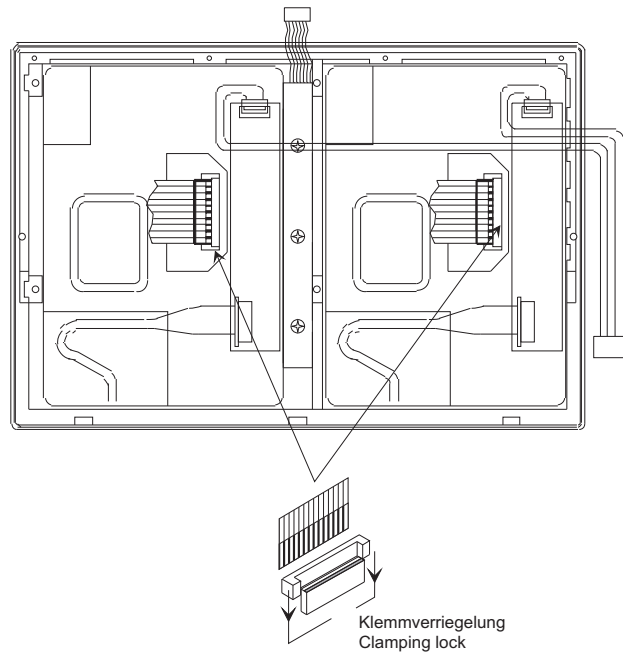

Fig. 8-9: Connecting the display
12. Connect flat cables to display unit. Avoid damage of the flat cables because of canting. (fig. 8-9)